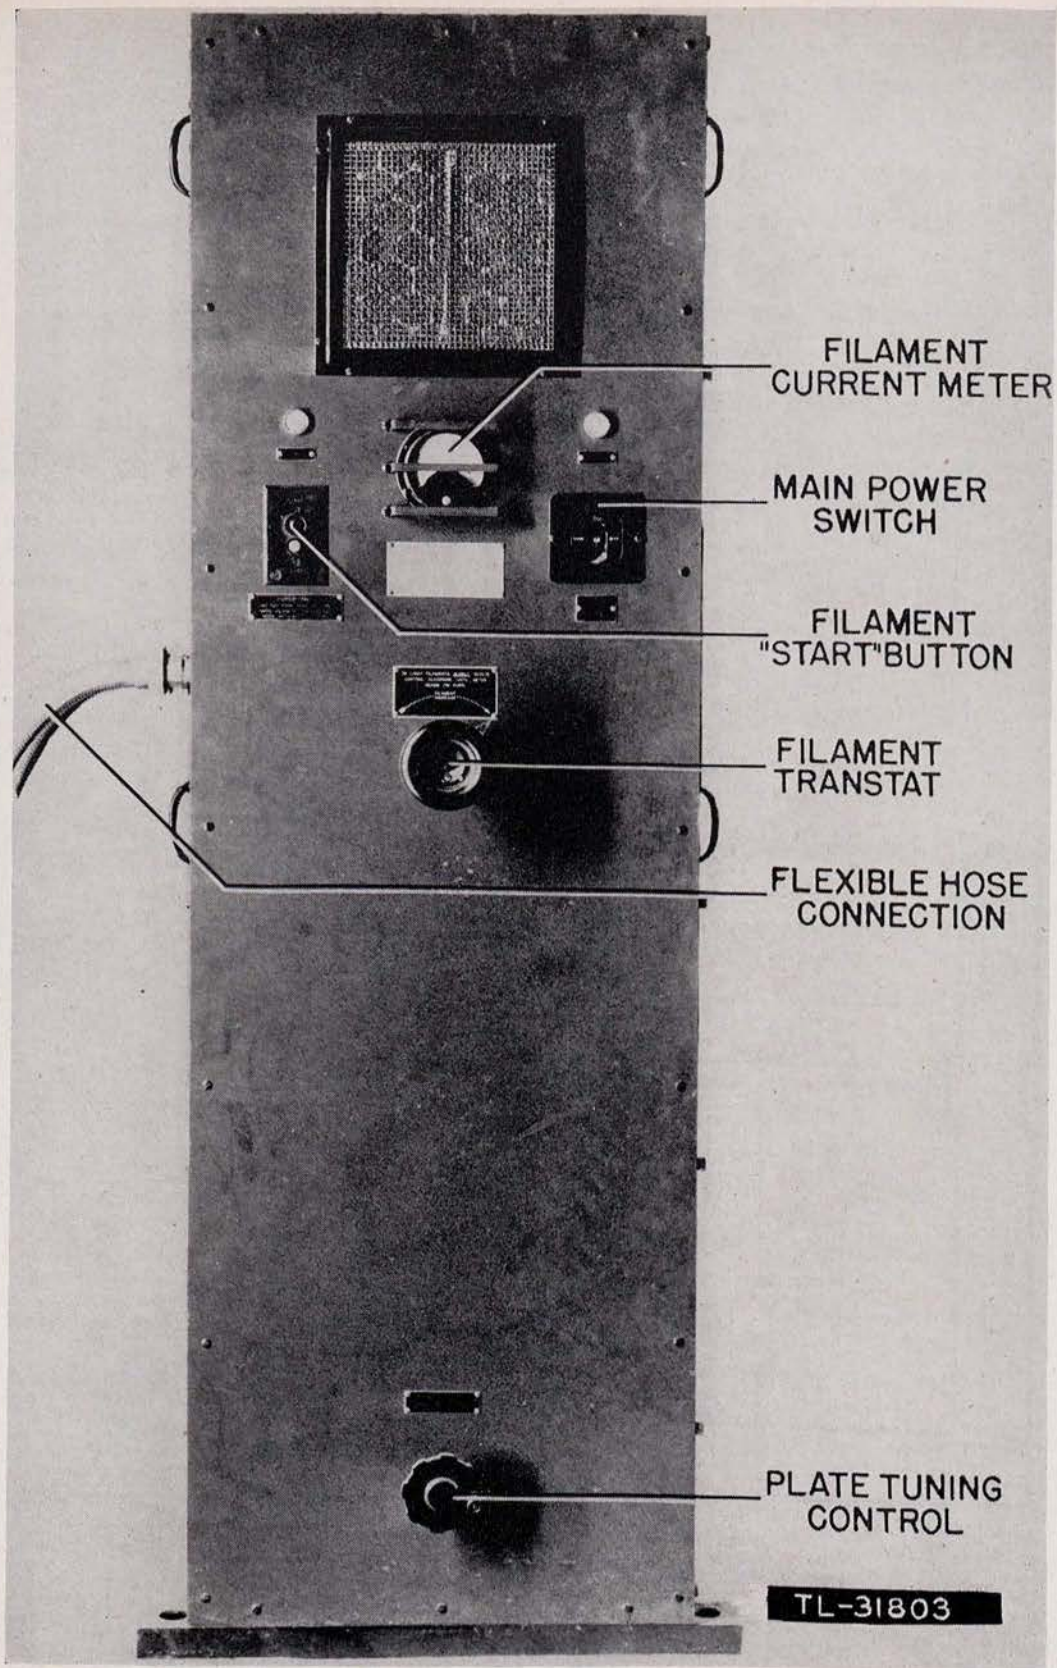

Figure 28. Transmitter BC-785-A, showing controls.
44. Throw Transmitter Main Power Switch On (fig. 28)
b. NORMAL RESULTS OF ACTION. (1) *Visi-*